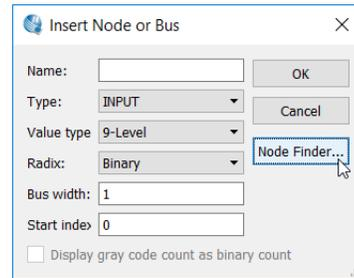

Figure 22. Insert node dialog.
4. Go to **Edit** ➔ **insert** and click insert node or bus. A pop-up dialog box will appear as shown in Figure 22.